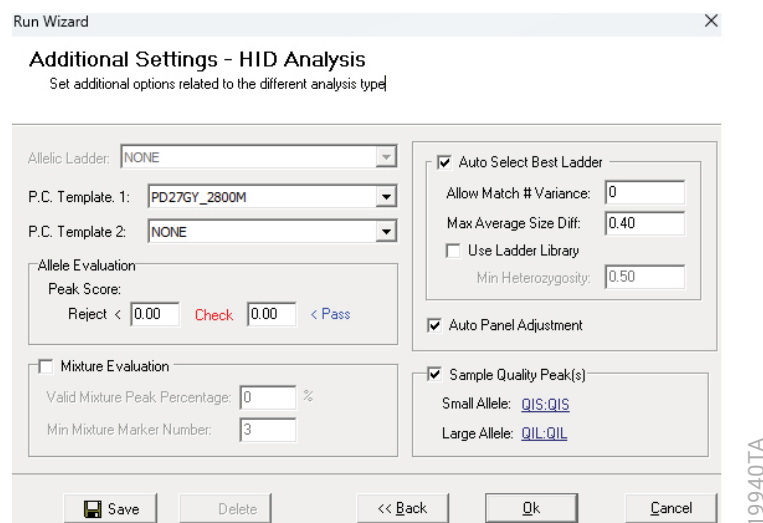

Figure 25. The 'Additional Settings' window for an analysis method.
11. The 'Additional Settings – HID Analysis' window will appear (Figure 25). Select **PD27GY_2800M** as the P.C. Template 1 and verify that the boxes are checked for "Auto Select Best Ladder", "Auto Panel Adjustment" and "Sample Quality Peak(s)". If the Paradyme 27GY positive control template is not available, consult the *GeneMarker®HID Software for Spectrum CE Systems User Manual #TM555* and use the Positive Control Template Editor to set up a new template. Ensure that "QIS:QIS" is selected for the Small Allele and "QIL:QIL" for the Large Allele in the Sample Quality Peak(s) Section. The values displayed in the Allele Evaluation dialogue box are defaults and will affect the quality values displayed in the plot settings. For more information on quality values, use of a second positive control and mixture evaluation, refer to the *GeneMarker®HID Software for Spectrum CE Systems User Manual #TM555*. Select **OK** to analyze the raw data.